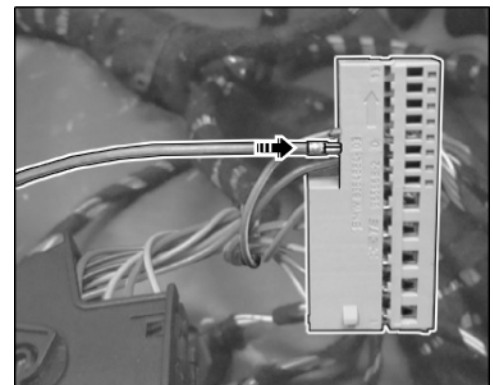

Figure 17
2.4.3 Insert socket contact into chamber 8 of the grey plug socket (⇒ *Figure 17 -arrow-*).